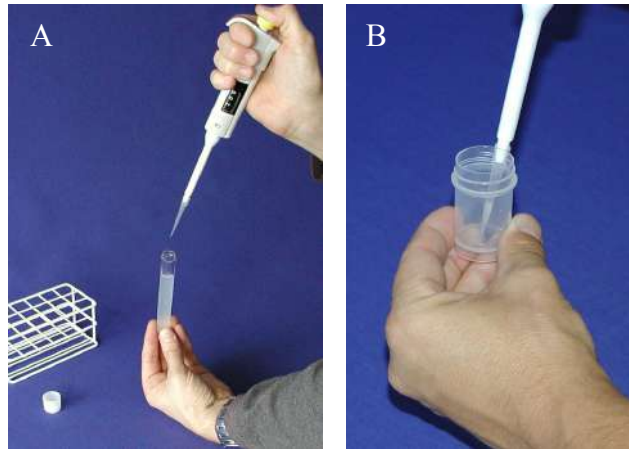

Figure 1. (A) Pipetting of sample and (B) transferring sample to center area of bottom of a 20 ml sample cup
- 3A Put a new tip on the pipette and aspirate a representative volume of **500 µl** of the sample. Transfer the sample to the center area of the bottom of a **20 ml sample cup**. (*cf. figure 1*)
- 3A. Put a new tip on the pipette and aspirate a representative volume of **200 µl** of the sample. Transfer the sample to the center area of the bottom of a **20 ml sample cup**. (*cf. figure 1*)